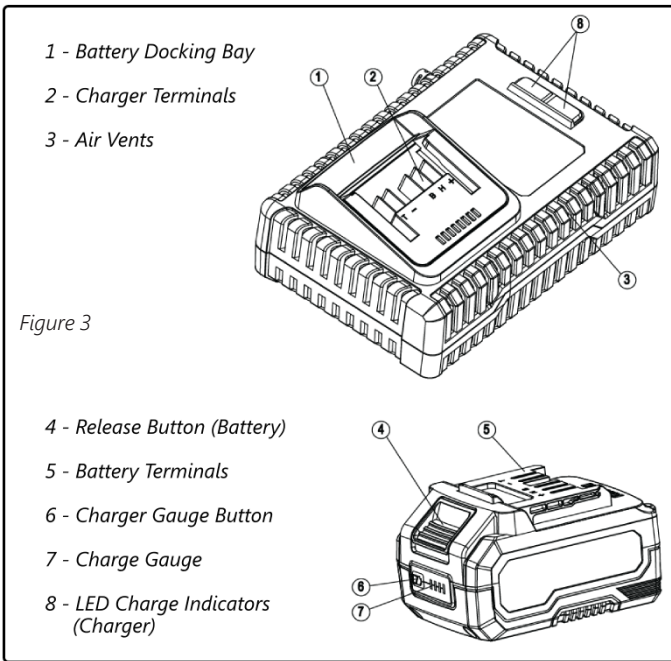

Figure 3
- The battery is equipped with the ability to indicate its current charge level. Press the Charge Gauge Button on the front of the battery housing (hold for 1 second; see Figure 3, #6).